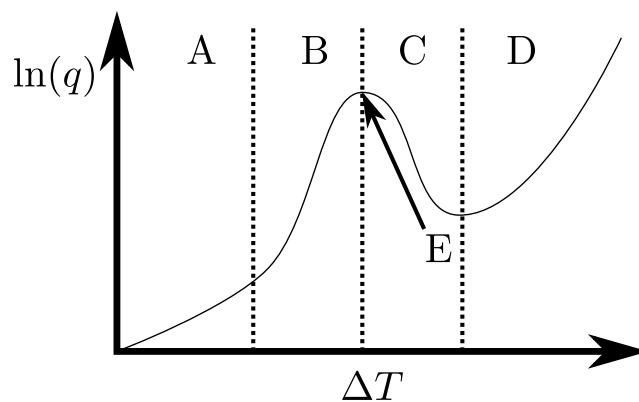

Figure 28: A typical boiling heat flux versus driving temperature difference curve.
- 11) Which region of the boiling curve in Fig. 28 is the nucleate boiling regime? [2 marks]
- 12) Which region of the boiling curve in Fig. 28 is the radiative boiling regime? [2 marks]
- 13) Which region of the boiling curve in Fig. 28 is the operation of the boiler unstable? **[2 marks]**